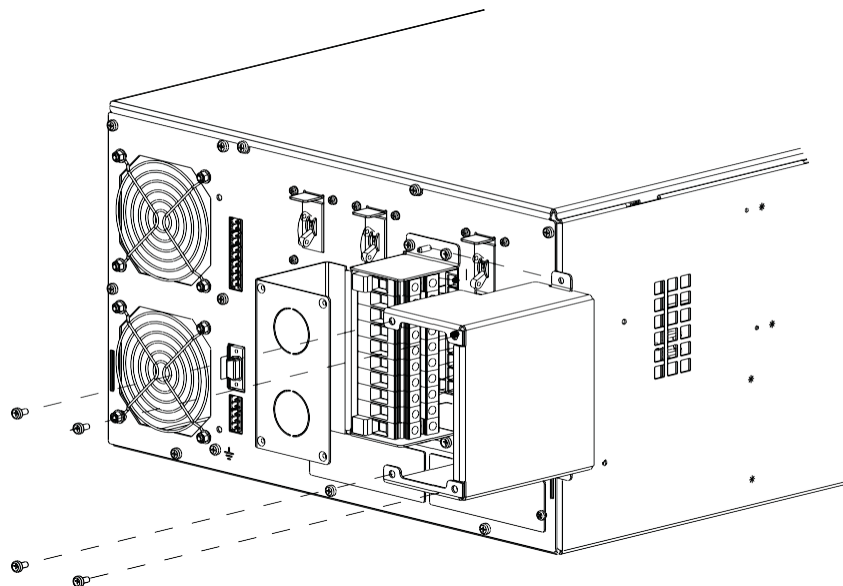

Figure 61. Removing the Input/Output Box Access Cover
4. Remove the four screws from the Input/Output box access cover and retain (see Figure 61)